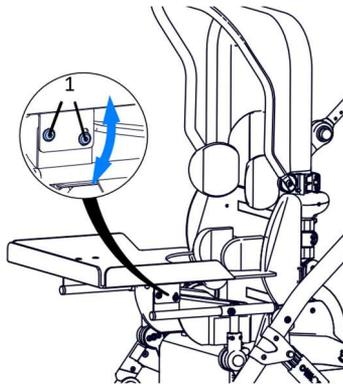

Fig. 34
The angle of the tray top Fig. 34 is adjusted by loosening both screws (1) located below the tray top. After obtaining the desired angle of inclination, tighten the screws. The adjustment screws are located on both the left and right sides of the tray.